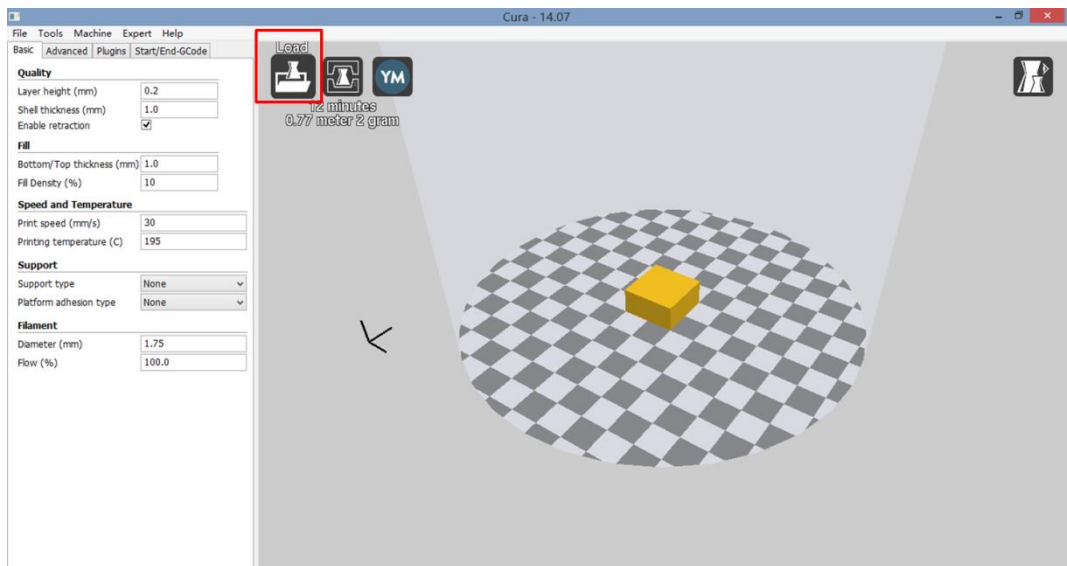

Fig. 43
Step 4. Print. To experience the very first print, please load the test model '20×20×10' and then click the 'Print with USB' icon on top, as shown in Fig. 43. In order to minimize the instability from the PC and USB port, it is strongly suggested to save the model in Cura as Gcode file into SD card and insert the SD card to 3D printer to print offline.